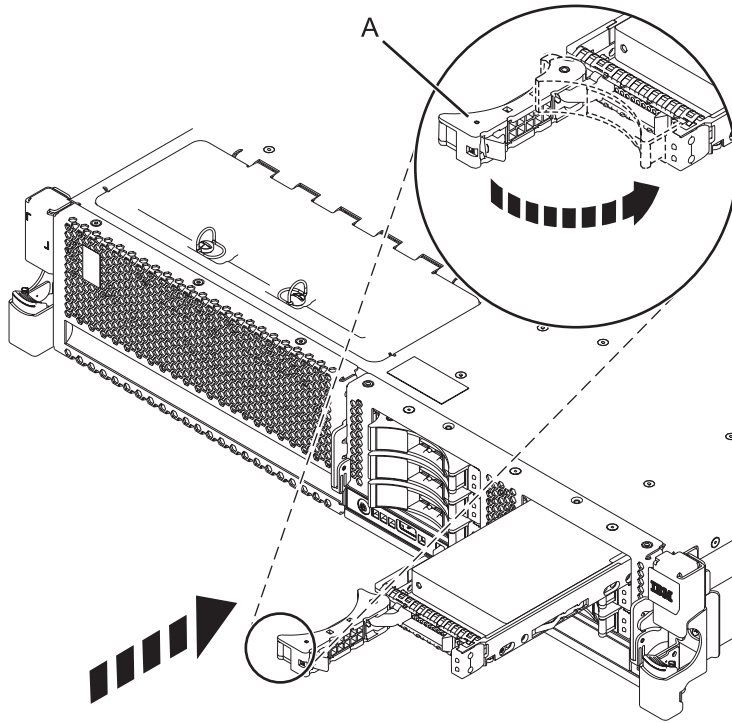

Figure 51. Installing a disk drive in the system
6. When the identify LED turns on solid, slide the drive all the way into the system or an expansion unit, and push the drive handle **(A)** in until it locks, as shown in Figure 51 on page 77.